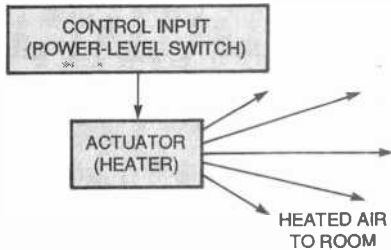

Fig. 1. Here's an example of a simple, open-loop control system. No signal comes back telling the system how well the room is being heated.
**Open or Closed Systems?** Let's stick to the example of home heating to do a little comparison between open and closed-loop systems. The simplest type of heater (see Fig. 1) has a power-level switch (usually with off, low, medium, and high settings) and a heating element. An electrical signal flows from the power control to the heater, and the heated air flows from